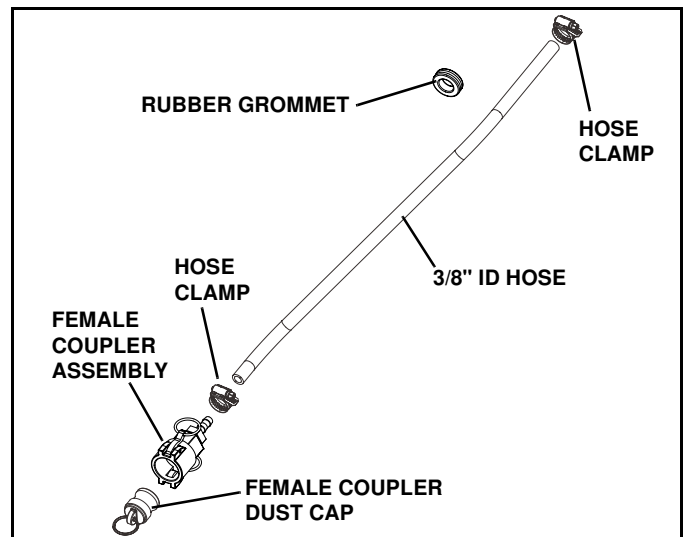

Figure 1-5
1. Open the bag marked "Tank Hose Install Kit" and locate the following parts. (See Figure 1-5)